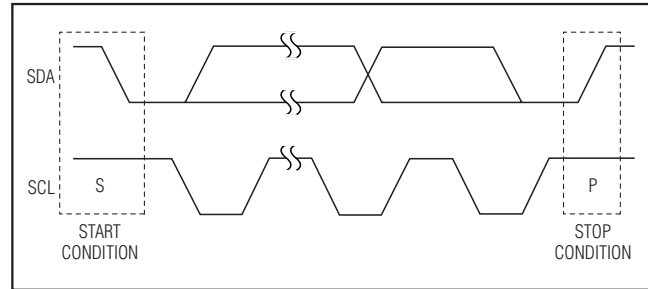

Figure 3. START and STOP Conditions
Each transmission consists of a START (S) condition (Figure 3) sent by a master, followed by the MAX5477/MAX5478/MAX5479 7-bit slave address plus the NOP/ $\bar{W}$  bit (Figure 4), 1 command byte and 1 data byte, and finally a STOP (P) condition (Figure 3).
communicating with the slave. The bus is then free for another transmission (Figure 3).